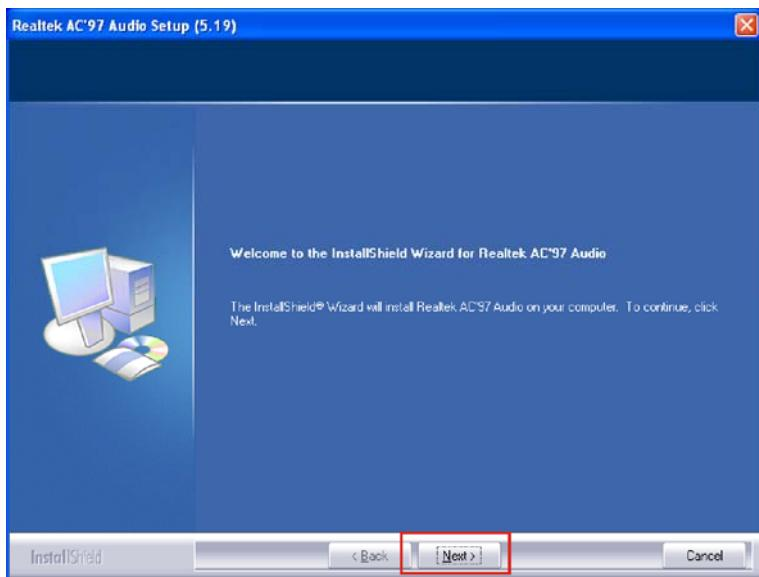

Figure 7-22: AC'97 Driver Installation Welcome Screen
**Step 5:** The AC'97 Driver Installation screen in **Figure 7-22** appears.